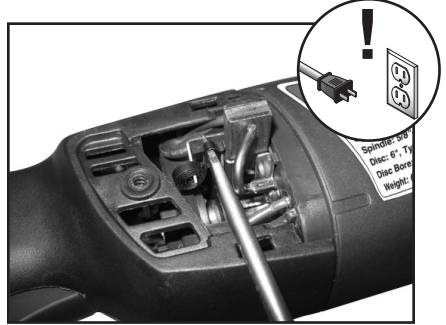

Figure 17. Release spring tension.
2. With the #2 flat head screwdriver, release the tension on the flat coil spring that holds the carbon brush in place, as shown in **Figure 17**.